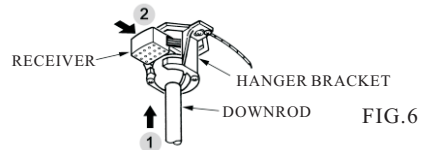

FIG. 6
2. Carefully lift the fan and seat the down rod ball assembly on the hanger bracket. Be sure the groove in the ball is lined up with tab on the hanger bracket. Do not pinch wires between the ball and down rod assembly and hanger bracket(see Fig.6)